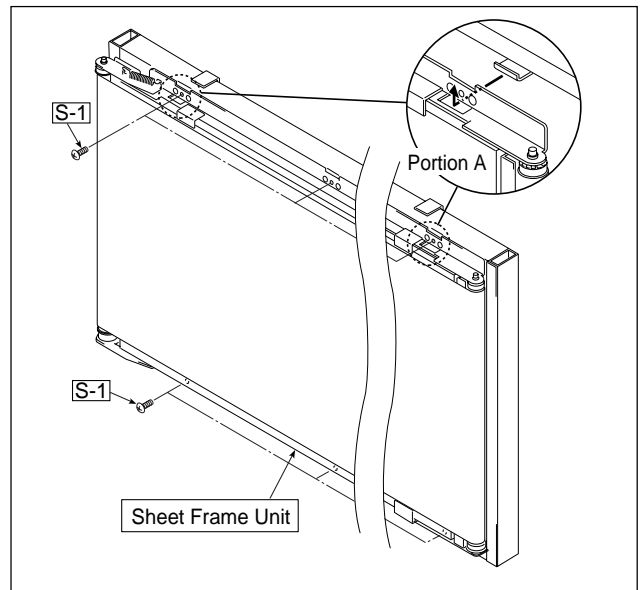

Fig. 10
7) Remove the Sheet Frame Unit. (See Fig. 10.)
1. Remove the "S-1" screws shown in Fig. 10 and disassemble the Sheet Frame Unit.
- The Sheet Frame Unit is caught on a hook as shown in the portion A of Fig. 10.